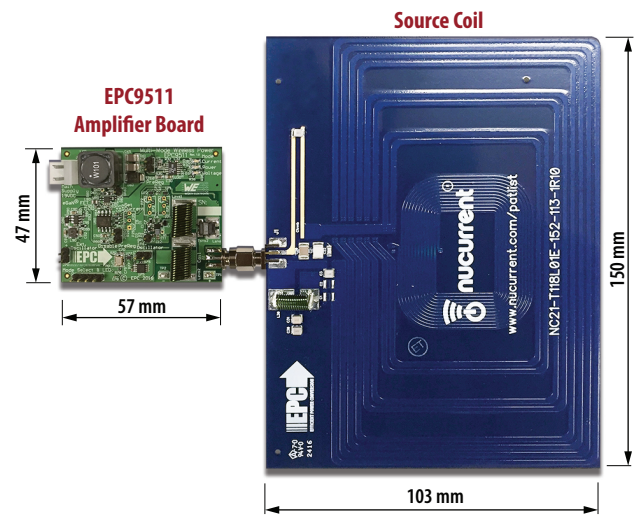
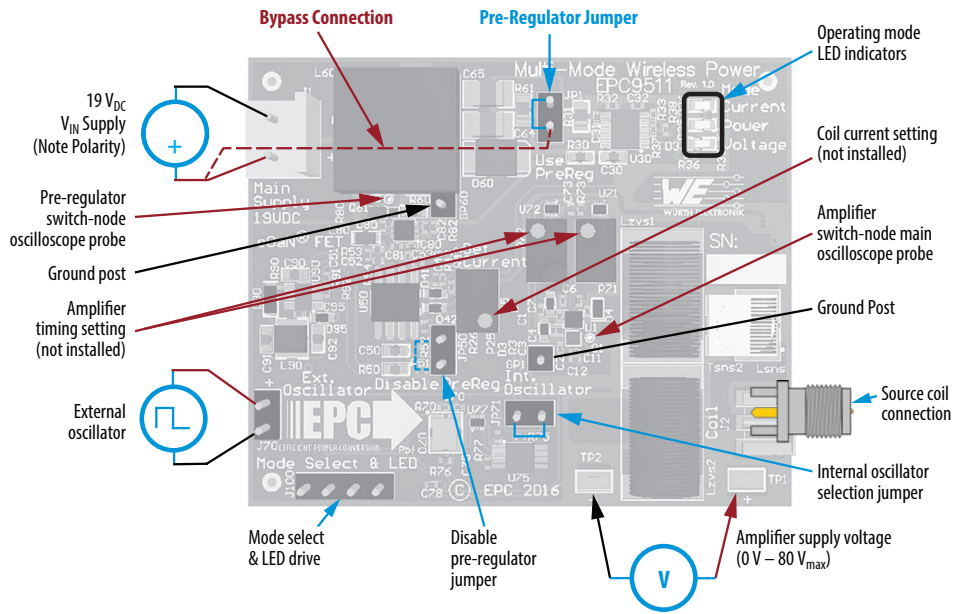

Figure 1: EPC9121 wireless power demonstration system
Figure 5: Proper connection and measurement setup for the EPC9511 amplifier board.
The EPC9121 wireless power system comprises the four boards (shown in figures 1 and 2) namely:
The assembly of the EPC9121 wireless power transfer demonstration kit is simple and shown in figure 1. The source coil and amplifier have been equipped with SMA connectors. The source coil is simply connected to the amplifier.
The EPC9511 amplifier board is easy to set up and evaluate the performance of the eGaN FET in a wireless power transfer application. Refer to figure 1 to assemble the system and figures 5 through 11 for proper connection and measurement setup before following the testing procedures.
2. With power off, connect the main input power supply bus to J1 as shown in figure 5. Note the polarity of the supply connector.
2. With power off, connect the main input power supply bus to the bottom pin of JP1 and the ground to the ground connection of J1 as shown in figure 5.